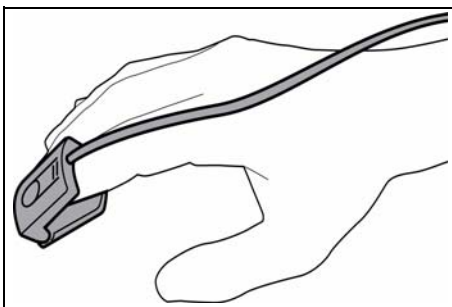

FIGURE 10-11 Reusable finger clip sensor
1. Insert the finger (preferably the index, middle, or ring finger) into the Nonin finger clip until the end of the finger reaches the finger stop (shown in FIGURE 10-11). Keep the fingernail facing the sensor top. Ensure that long fingernails are not interfering with the proper finger position.